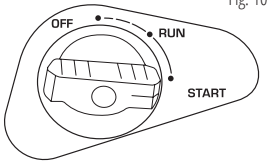

Fig. 10
7. After the generator stops, allow it to cool down and close the air vent on the fuel cap (set to OFF, as shown in Fig. 10, for models KS 2000i S, KS 2000iG S - when switching off gasoline operation).